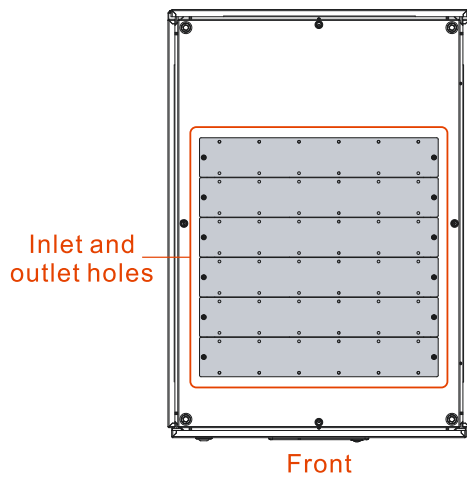

Figure3-21 Inlet and outlet schematic diagram
Step 2 Connect the input, output and battery wires according to Figure3-21, and fasten the bolts.